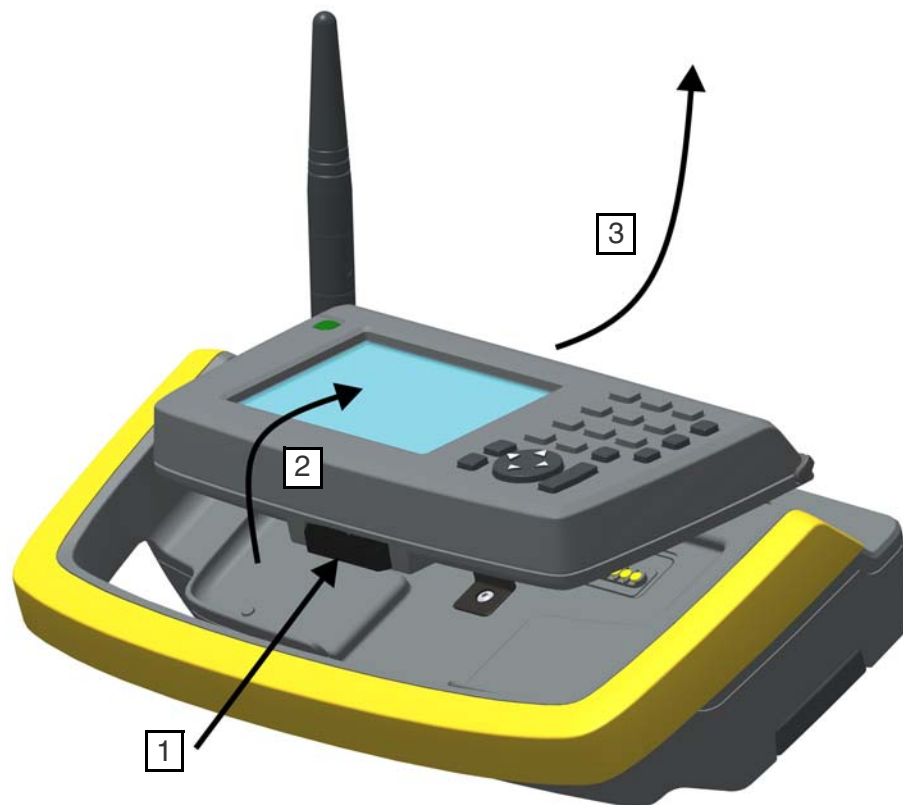

Figure 5.16 Detach Trimble CU from Trimble Robotic Holder
1. Push the lock release button on the bottom of the Trimble CU (1) and lift the bottom of the Trimble CU away from the holder (2).
2. Unhook the top of the Trimble CU from the top edge of the panel attachment and remove the Trimble CU from the holder (3), Figure 5.16.